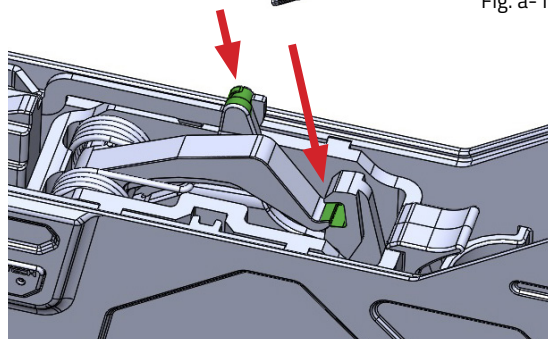

Fig. a-2
3. If the hammer and sear mechanisms are dirty, scrub them lightly with a brush and wipe clean as best as possible. (Fig. a-2)